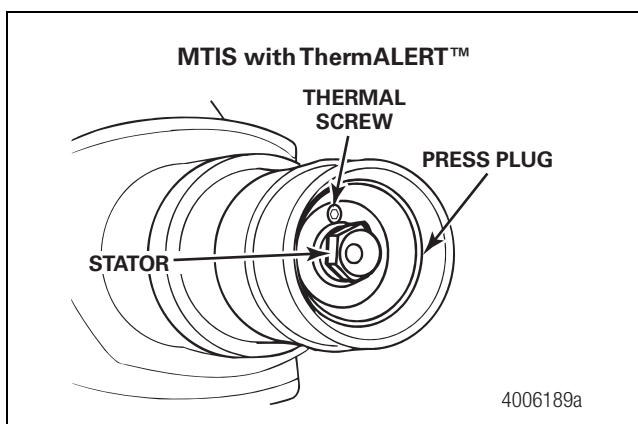

Figure 1.6
- If equipped with the ThermALERT™ system, the axle press plug with the thermal screw and stator are installed into the axle spindle. The thermal screw must be installed at the 12 o'clock position when the axle is sitting in the running position. Figure 1.6.